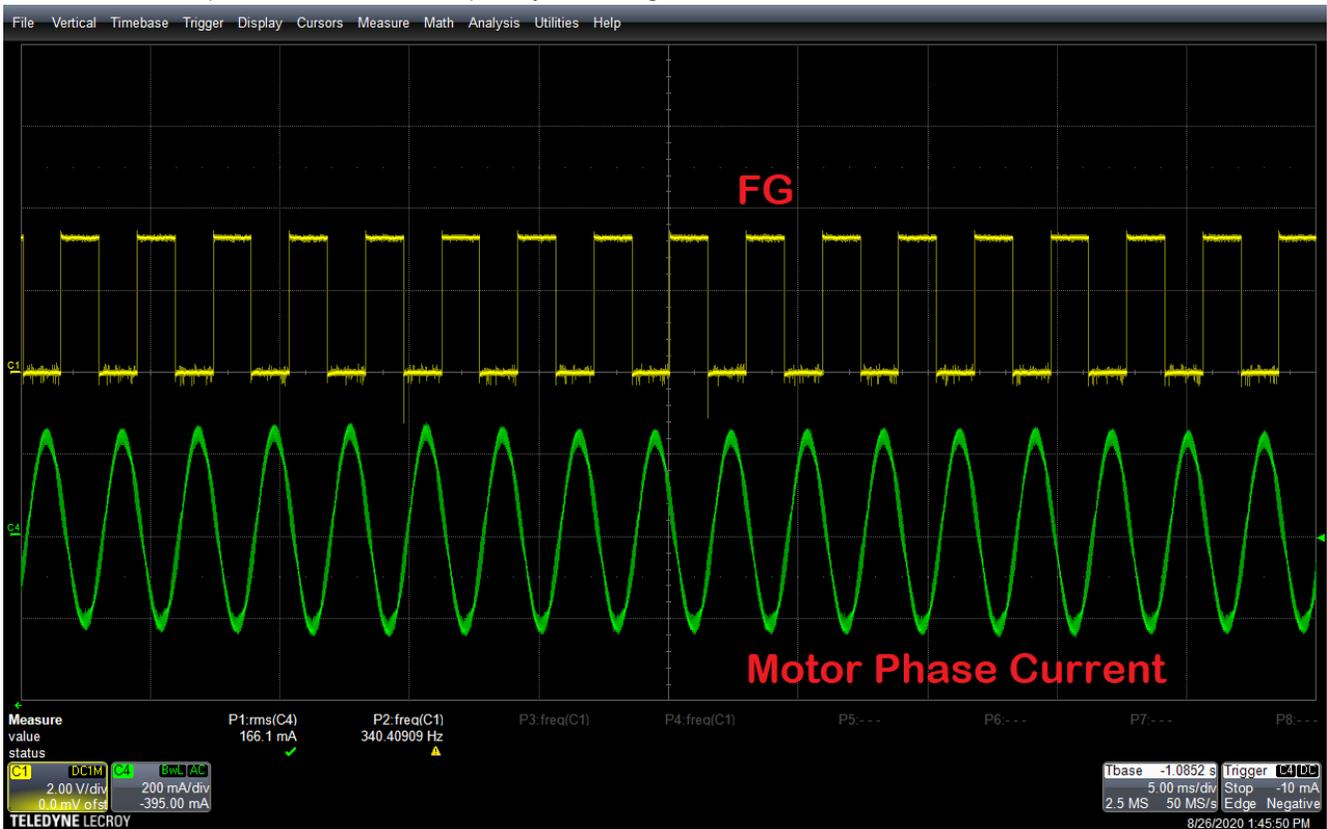

Figure 2-1. FG and Phase current
2. Sweep the lead angle around the programmed lead angle and measure the motor phase current (rms) and motor speed (Hz) for each value of lead angle. It is recommended to measure the motor speed by measuring the frequency of FG signal for accurate results. Figure 2-1 shows the phase current and FG plot. Measure the RMS value of phase current and frequency of FG signal.